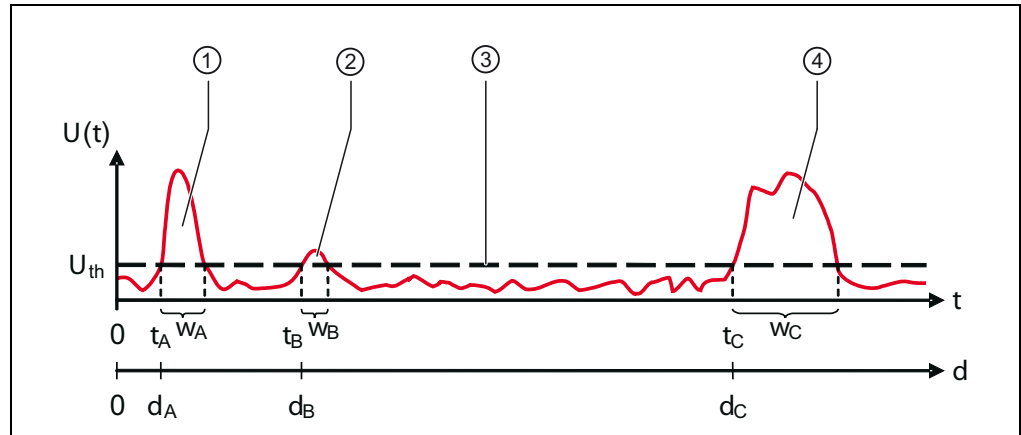

Fig. 3-3: Multi-echo capability
In the example shown in Abb. 3-3, a reflected echo of a glass pane yields a high voltage over a short period of time.
**Example for a case with three echoes, see Abb. 3-3**